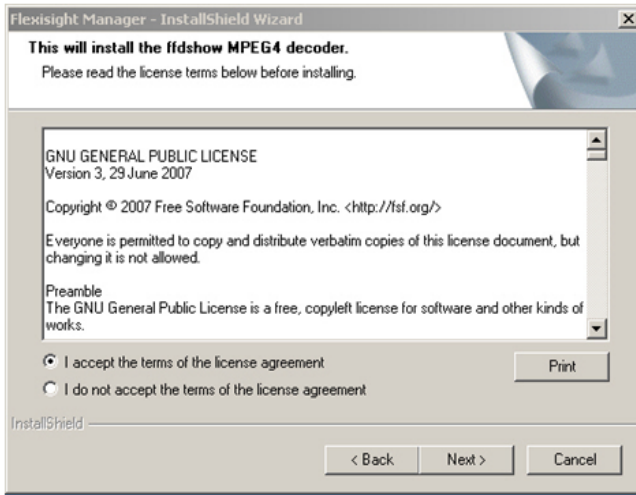

Figure 2.2 License Agreements
4. You will then be presented with 5 License Agreement windows (see Figure 2.2).